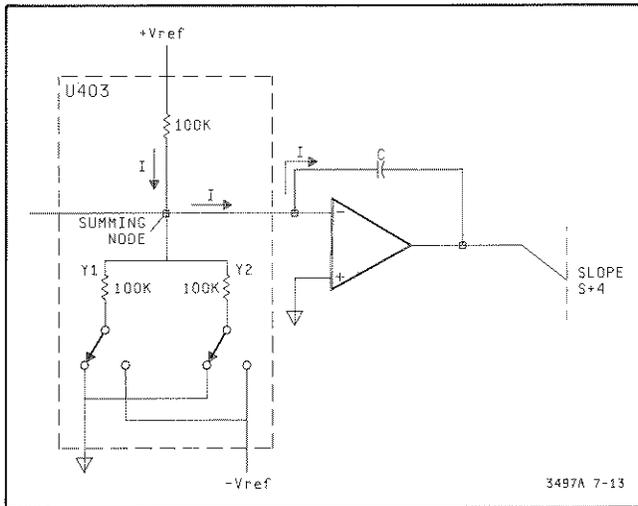
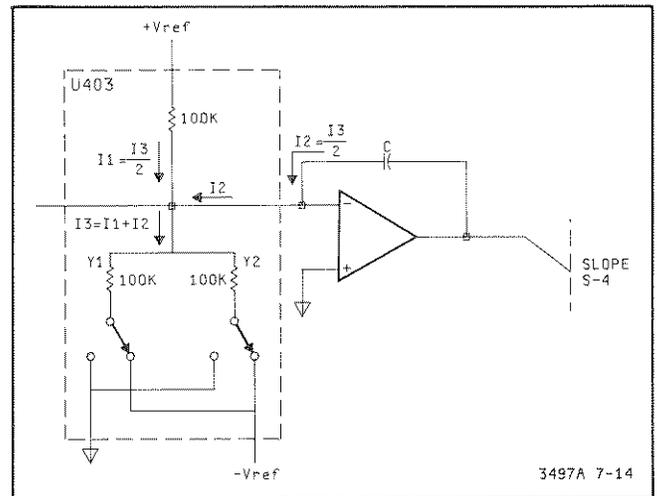

Figure 7-13. Slope S+4 Generation
Figure 7-14. Slope S-4 Generation
a. **Slope S+4.** Refer to Figure 7-13. Note that both Y1 and Y2 paths are connected to ground. Since the summing node of the paths is a virtual ground and Y1 and Y2 are also connected to ground, no current flows between the paths and the summing node. Current does flow from +Vref (Positive Reference Voltage, +12V) through a 100K ohm resistor into the integrator capacitor (C). This generates a negative going output slope.
b. **Slope S-4.** Refer to Figure 7-14. Note that both Y1 and Y2 paths are connected to -Vref (Negative Reference Voltage, -12VA). Since the summing node is a virtual ground, current flows from +Vref through a 100K ohm resistor and paths Y1 and Y2 to -Vref. Current also flows from the integrator capacitor (C) to -Vref. This current is generated because the total resistance of the Y1 and Y2 paths is smaller than the 100K ohm resistor from +Vref. The current from +Vref plus the current from the capacitor equals the total current through paths Y1 and Y2. Since the total resistance of paths Y1 and Y2 is 50K ohms, the current from +Vref (I1) and the current from the capacitor (I2) is half as large as the total Y1 and Y2 current (I3). The resultant output slope is positive.
7-173. Rundown Slope Generation. The S-4 and S + 4 slopes are generated the same way it was done for the runup operation (see paragraphs 7-165). The only difference is that they are developed with the input current removed. The S + 0 slope is generated the same way as the S + 0 slope in runup (see paragraph 7-166). The S-3 and S-1 currents use the same circuitry configuration as the S-4 current (see Figure 7-14), but use different resistor values. The resistor values are such that the S-3 current is 1/10 the S-4 current and the S-1 current is 1/1000 the S-4 current. The S + 2 current uses the same circuitry configuration as the S + 4 current (see Figure 7-13). In this case, the resistor values chosen are such that the S + 2 current is 1/100 the value of S + 4 current.